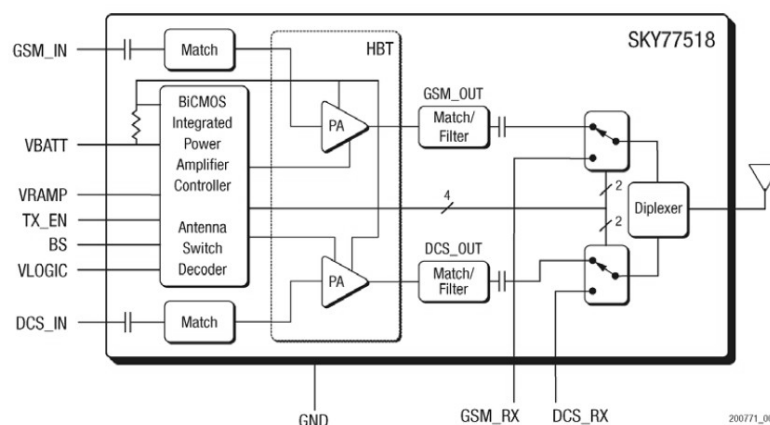

Figure 3.1 Functional Block Diagram
Band selection and control of transmit and receive modes are performed using two external control pads. Refer to the functional block diagram in Figure 3.1 below. The band select pad (BS) selects between GSM and DCS modes of operation. The transmit enable (TX_EN) pad controls receive or transmit mode of the respective RF switch (TX = logic 1). Proper timing between transmit enable (TX_EN) and Analog Power Control (VRAMP) allows for high isolation between the antenna and TX_VCO while the VCO is being tuned prior to the transmit burst.